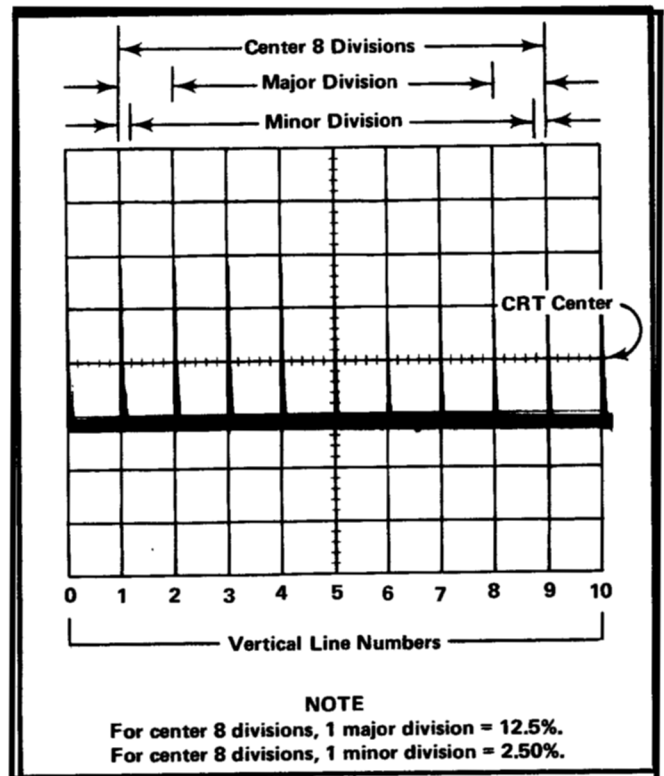

Fig. 5-2. Typical CRT display showing correct sweep calibration. Also, various terms used in this procedure with regard to the graticule.
d. CHECK—CRT display for one 1 ms marker each major division between the first and ninth divisions; see Fig. 5-2.